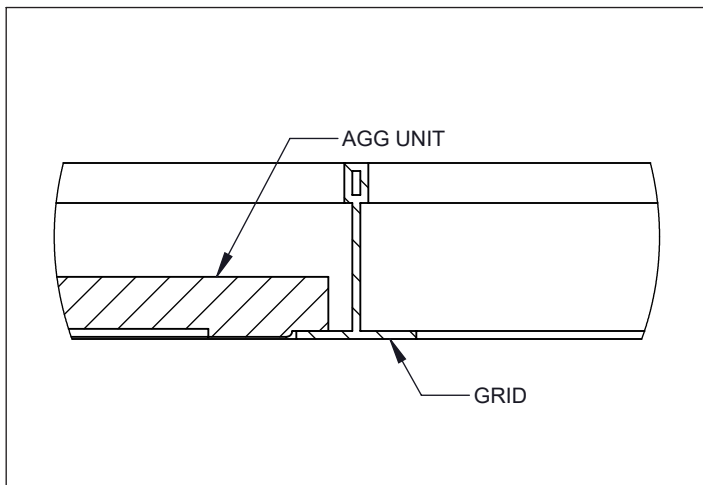

Figure 3
3. Center AGG unit in grid. (Fig. 3)